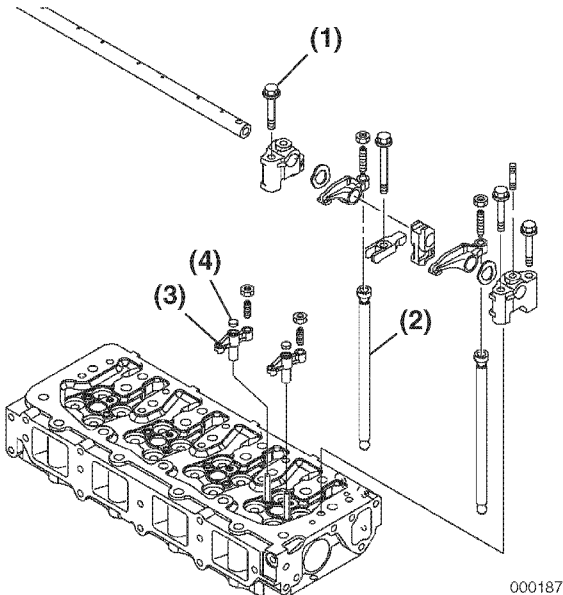

Figure 6-41
2. Remove the bolts (**Figure 6-41, (1)**) that retain the rocker arm shaft supports to the cylinder head.
4. Remove the push rods (**Figure 6-41, (2)**).
5. Remove the valve bridge assemblies (**Figure 6-41, (3)**). Remove the seat (**Figure 6-41, (4)**) from each valve bridge.